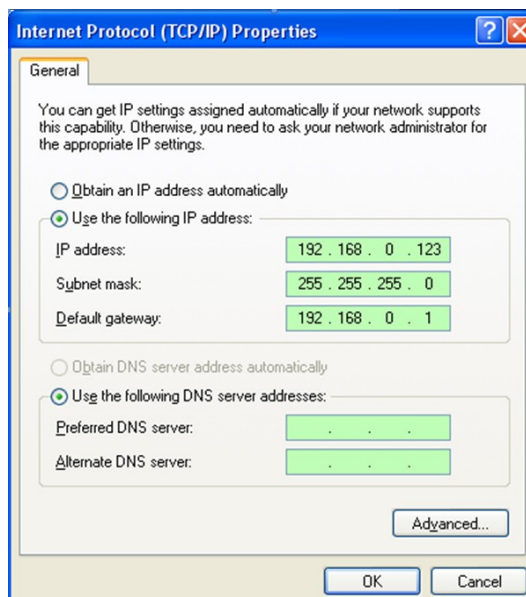

Fig. 3-5
Step 4: Double click “Internet protocol (TCP/IP)”. (Fig. 3-5)
(Parameters in Fig. 3-5 vary according to specific user's using conditions)